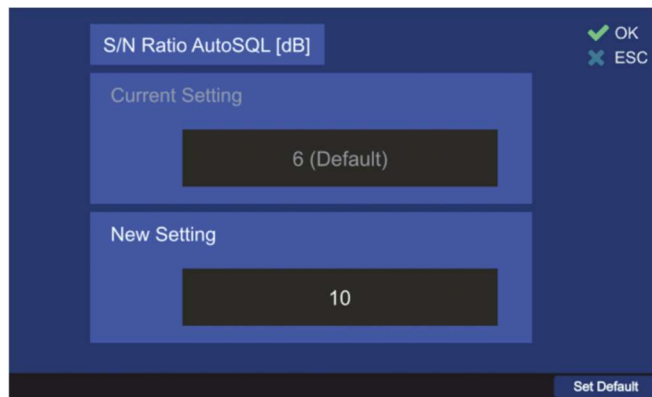

Figure 131. S/N Ratio for auto squelch function
- By pressing the “OK” button or hotkey “Edit Value”, while the setting “S/N Ratio AutoSQL [dB]” is marked, the following dialog is opened (s. Figure 131).